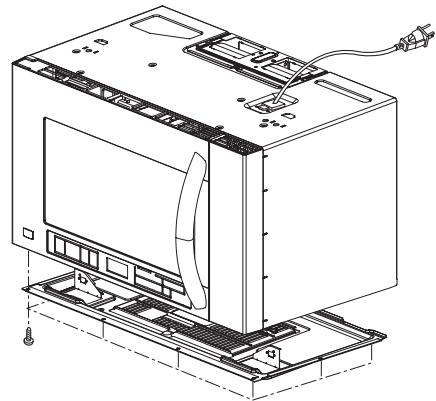
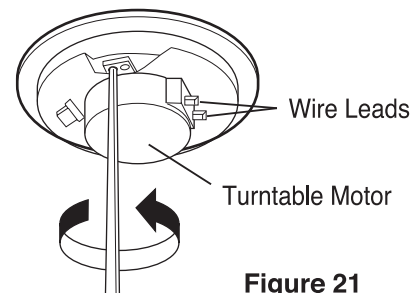

Figure 20
Figure 21
- (3) Remove the base plate by removing 8 screws securing it to the oven cavity. (Figure 20)
- (4) Disconnect the leadwire from the turntable motor terminals.
- (5) Remove the 1 screw securing the turntable motor to the oven cavity assembly. (Figure 21)